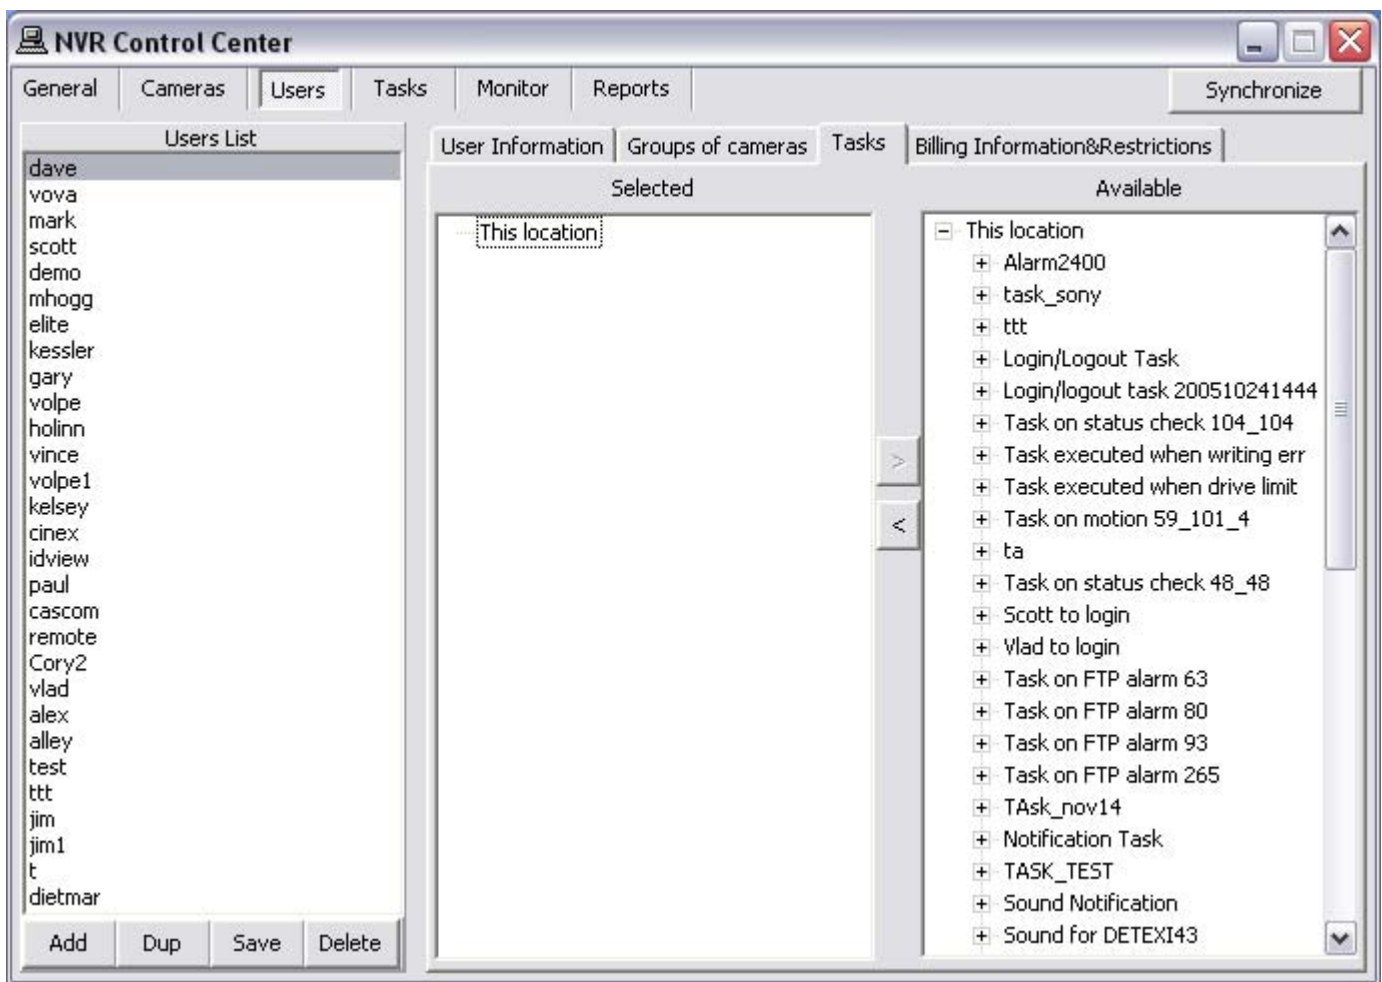

Fig114. NVR Control Center — Users — Tasks
1. In the **NVR Control Center** go to the **Users** (Fig 114).